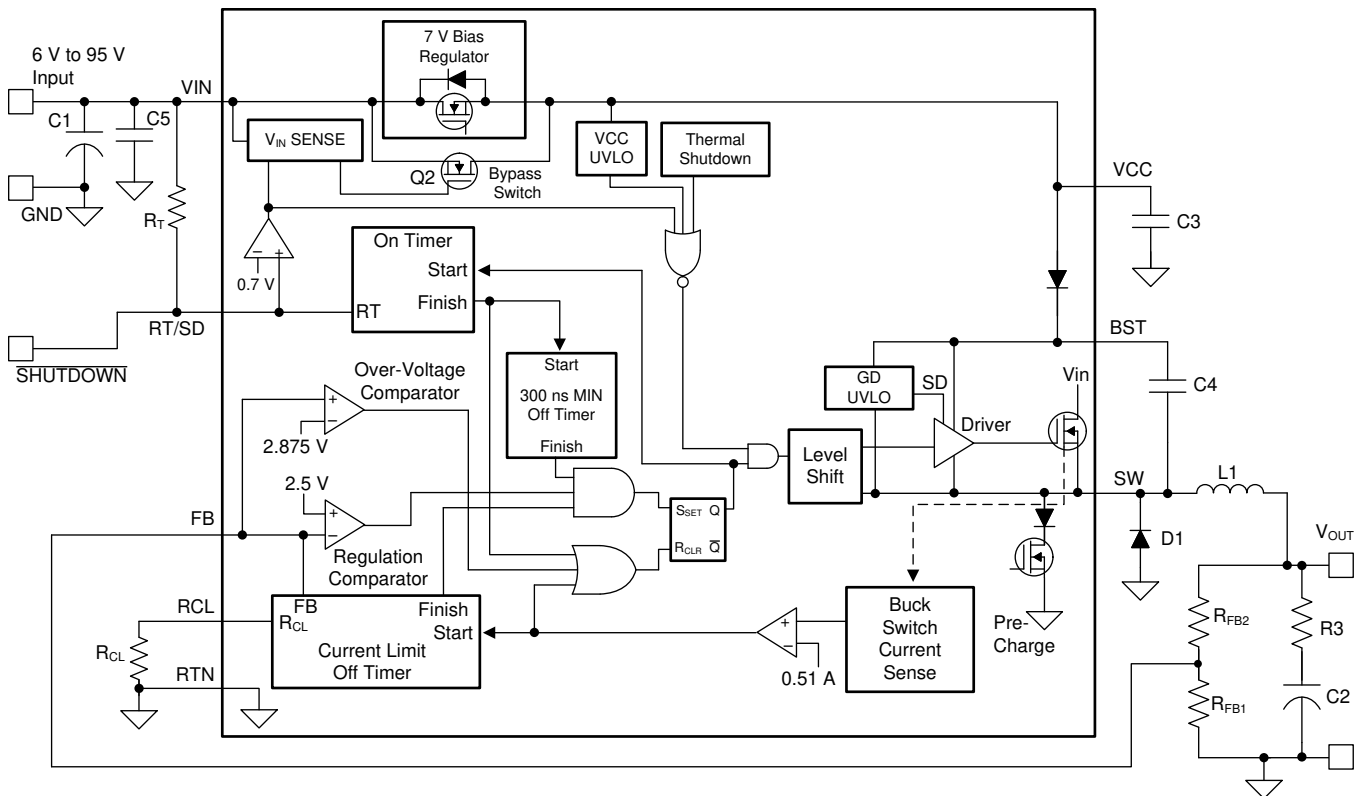

FIG 50. Functional Block Diagram
The output voltage ( $V_{OUT}$ ) is programmed by two external resistors as shown in 図 50. The regulation point can be calculated with 式 7.
The LM5008A regulates the output voltage based on ripple voltage at the feedback input, requiring a minimum amount of ESR for the output capacitor C2. A minimum of 25 mV to 50 mV of ripple voltage at the feedback pin (FB) is required for the LM5008A. In cases where the capacitor ESR is too small, additional series resistance may be required (R3 in the 図 50).
The high voltage bias regulator is integrated within the LM5008A. The input pin ( $V_{IN}$ ) can be connected directly to line voltages between 6 V and 95 V, with transient capability to 100 V. Referring to the Figure 50, when  $V_{IN}$  is between 6 V and the bypass threshold (nominally 8.5 V), the bypass switch (Q2) is on, and  $V_{CC}$  tracks  $V_{IN}$  within 100 mV to 150 mV. The bypass switch on-resistance is approximately 100  $\Omega$ , with inherent current limiting at approximately 100 mA. When  $V_{IN}$  is above the bypass threshold Q2 is turned off, and  $V_{CC}$  is regulated at 7 V. The  $V_{CC}$  regulator output current is limited at approximately 9.2 mA. When the LM5008A is shut down using the RT/SD pin, the  $V_{CC}$  bypass switch is shut off regardless of the voltage at  $V_{IN}$ .